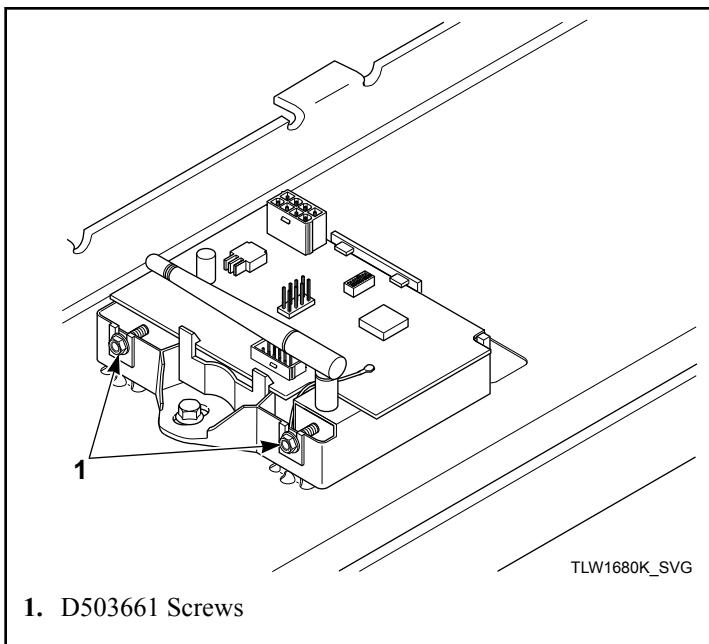

Figure 3
6. Position 204890 Wireless Network Control so that the mounting tabs on the Network Board go in front of the tabs on the control panel and the assembly mounts to the right of the mounting tabs, as shown in *Figure 3*. (The control should be to the right of the mounting tabs.) Then attach using the (2) D503661 Screws. Refer to *Figure 3*.